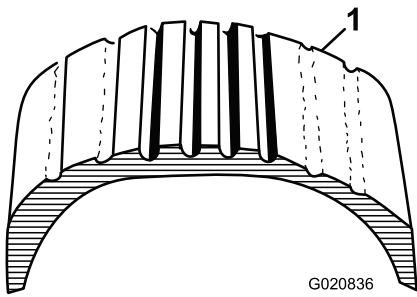
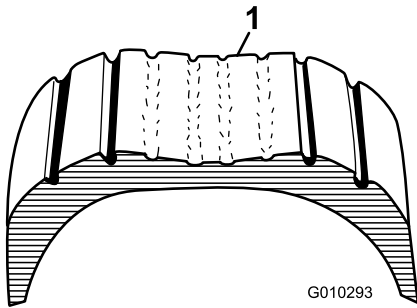

Figure 52
Figure 53
1. Visually inspect the tires for damage and wear (Figure 52 and Figure 53).